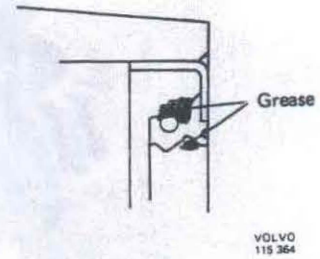
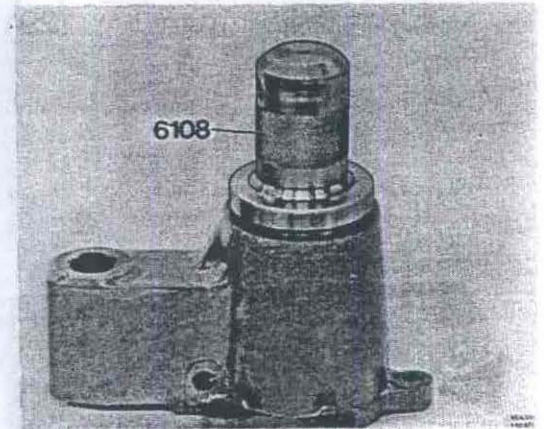

Fig. 43-178. Placing grease
Fig. 43-179. Pressing in seal
5. Fill about a fourth of the space between the sealing lips and the space between the spring on the reverse side of the sealing lip with grease, Fig. 43-178. Press the seal into the housing with 6108, Fig. 43-179.